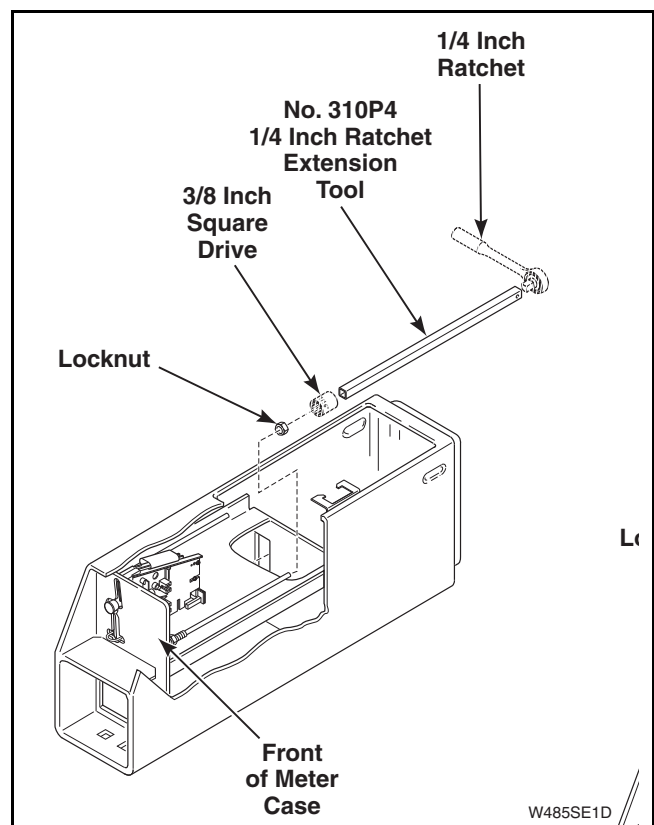

Figure 49
- (4) Use a 7/16 inch socket with No. 310P4 1/4 inch Ratchet Extension Tool and remove two locknuts holding coin drop to front of meter case. Refer to *Figure 49*.
- (5) Lift back end of coin drop and pull straight back until bottom edge of drop's front face plate falls behind the coin drawer housing.
- (6) Carefully lift complete coin drop straight up and out of meter case.